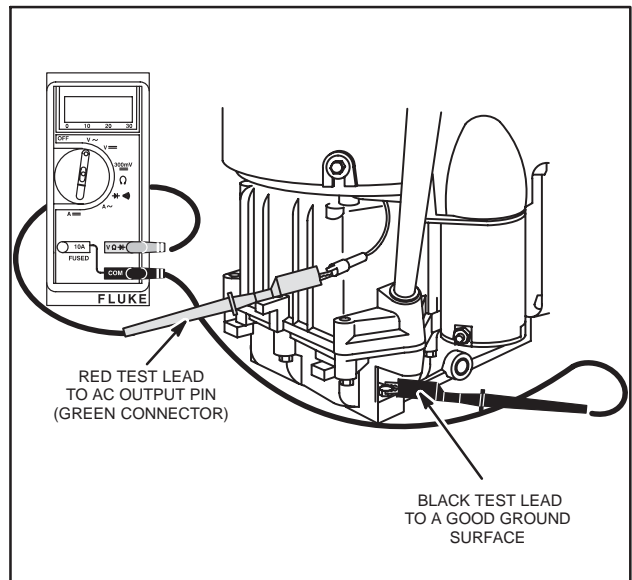

Fig. 16 – Testing Alternator Output
- Attach RED test lead clip to output terminal, Fig. 16.